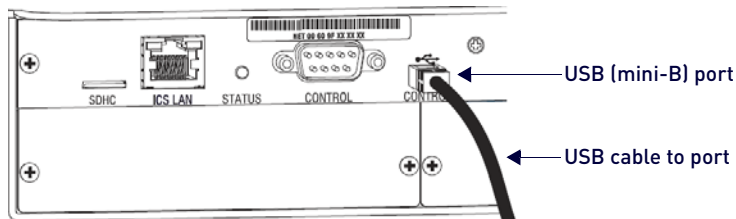

FIG. 169 USB cable connected to USB port on Enova DGX 3200 and to PC
3. Connect the enclosure to a PC running Windows with USB cable (FIG. 169):